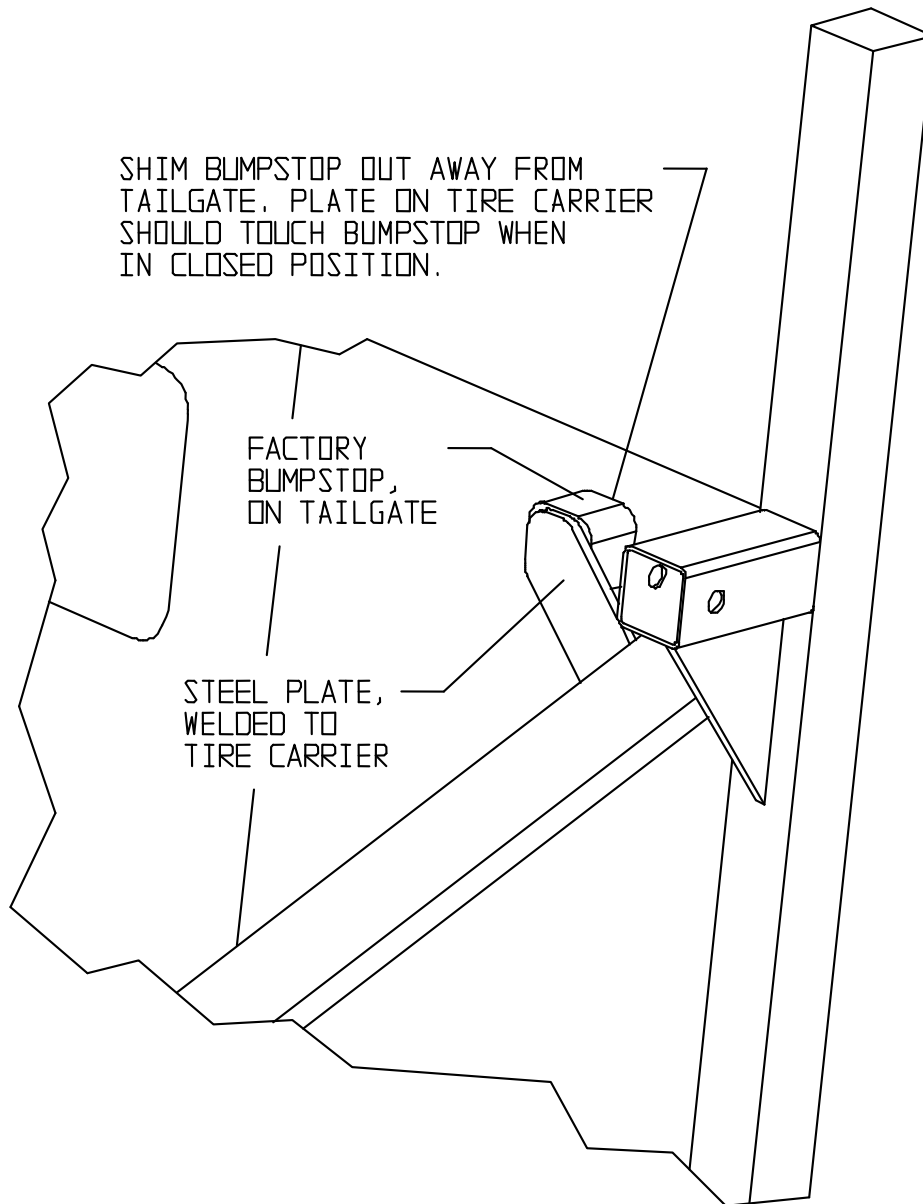

Figure 8, Factory Tailgate Bumpstop, TJ and YJ models.
19. There is a flat plate welded to the tire carrier framework. A rubber bumper should be mounted to either the flat plate or the tailgate to prevent the tire carrier from rocking back and forth on rough terrain on CJ models, **see step 24 for CJ installation.** The TJ and YJ have these rubber bumpers mounted on the tailgate already. It may be necessary to shim the driver's side top bumper out away from the tailgate to have slight pressure on the flat plate when the assembly is in the closed position. **See Figure 8.**